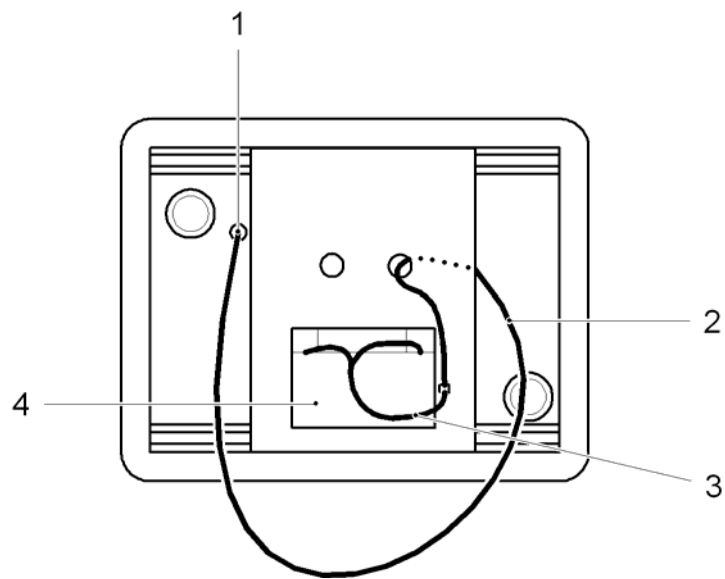

Figure 7-10 Power supply with a 12 V battery
- (1) Insert the DFS 600 connector cable (Figure 7-10 Item 2) in the battery cable (Figure 7-10 Item 3) of the battery (Figure 7-10 Item 4).
- (2) Insert the M12 plug of the DFS 600 connector cable into the connection socket (Figure 7-10 Item 4) on the back of the DFS 600 and screw it tight – the DFS 600 is now powered up.
- (3) Perform a functional test of the display with a hand movement.